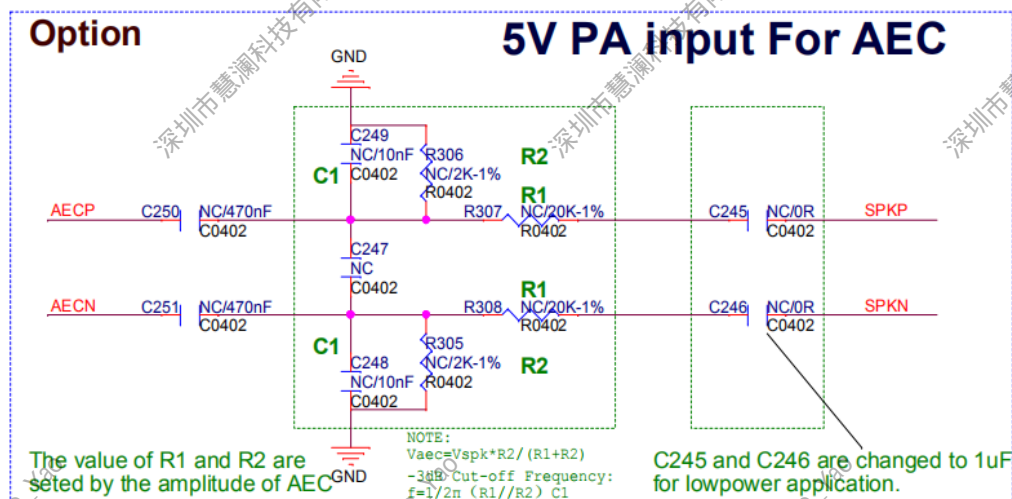

Figure 2-48 AEC Loop Reference Design
- Mark the operating voltage and the maximum operating current of AUDIO power in the schematic diagram to facilitate PCB layout design, as shown in Figure 2-48.